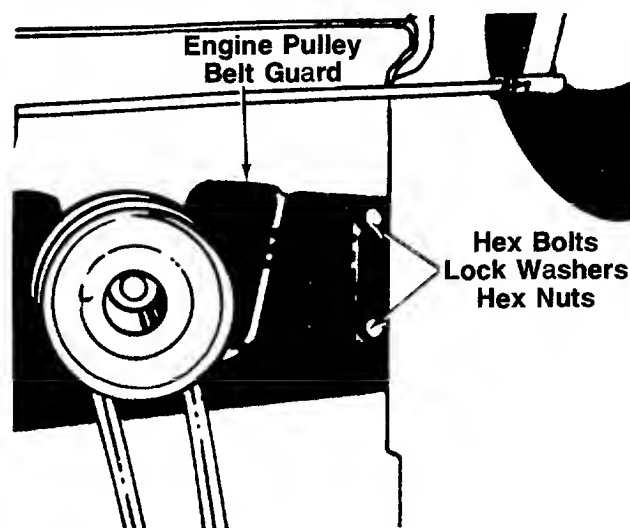

FIGURE 21.
5. Remove the two bolts, lock washers and nuts on each side of the frame which hold the engine pulley belt guard to the frame. See figure 21.